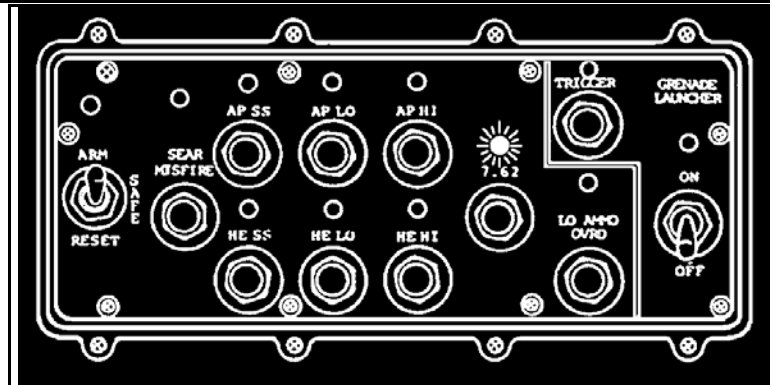

Figure 1. 7.62 button and indicator light.
- a. Press the 7.62 button. Check that 7.62 appears in the status indicator (Figure 1, page 3-174).